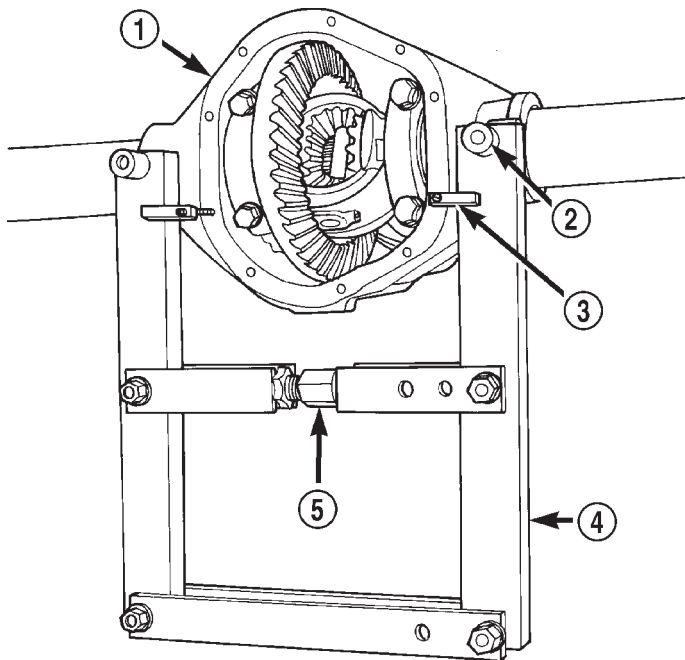

Fig. 28 Install Axle Housing Spreader
(1) Position Spreader W-129-B, utilizing some items from Adapter set 6987, with the tool dowel pins seated in the locating holes (Fig. 28). Install the holddown clamps and tighten the tool turnbuckle finger-tight.